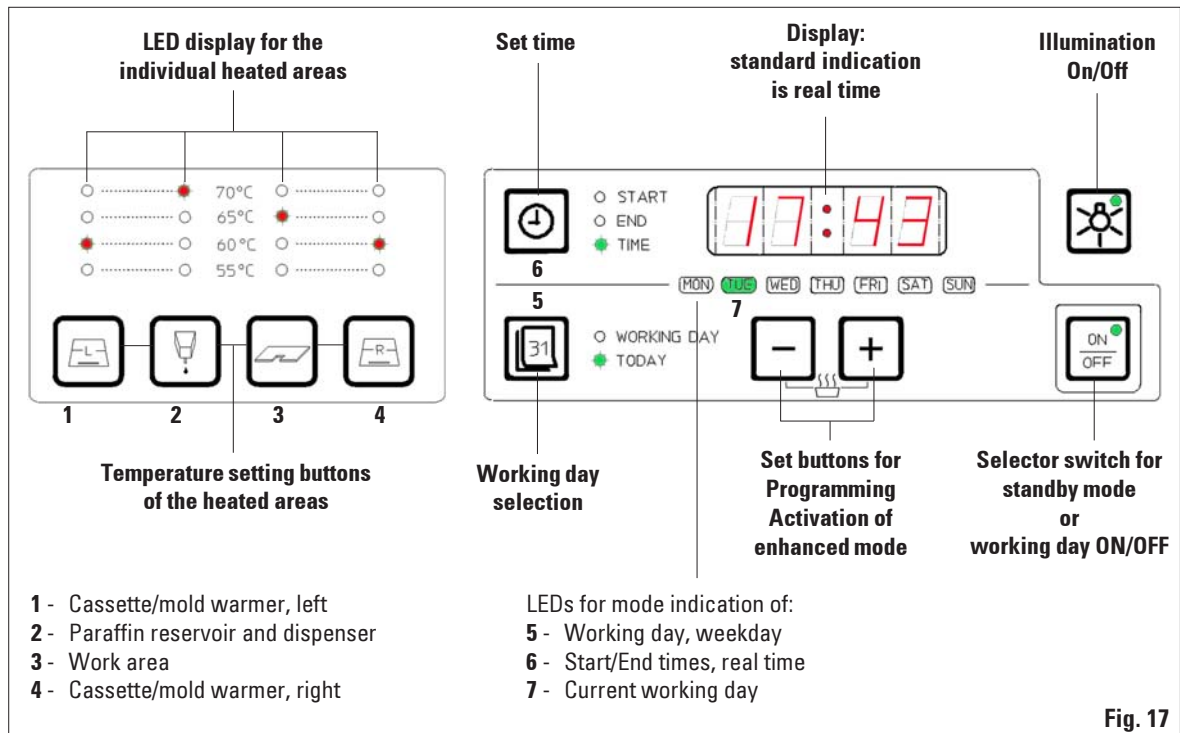

Fig. 17
- The heaters become active and the LEDs indicate the values last set. The LED's which indicate the set temperatures of the heated areas (**1, 3** and **4**, fig. 17) will flash from time to time over the entire length of the heating phase (compare "Indication of the heating intervals"). The LED of the paraffin reservoir (**2**, fig. 17) flashes in time intervals of 1 second each while the intensified heating of the paraffin reservoir is active (4 hours). If temperature settings are modified during the heating phase, the instrument will store the new settings and the heating phase will then correspondingly take longer.